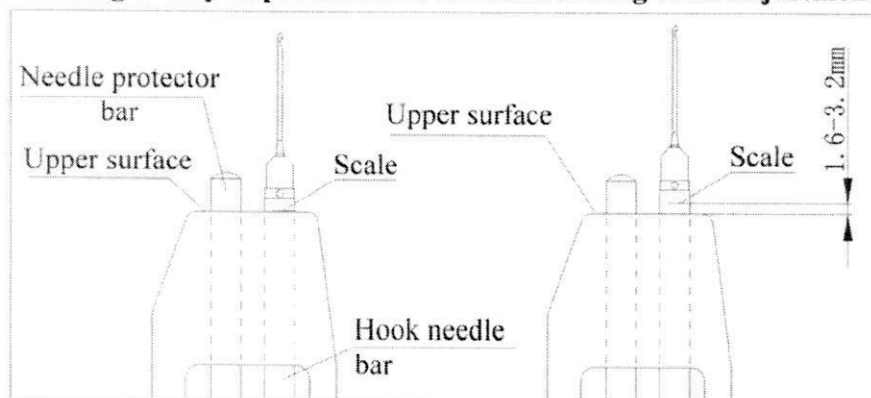

Fig.3
4.2 Position setting of eccentric cam of hook needle movement (Fig.3)